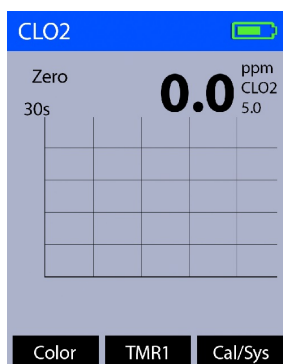

Figure 5.
2. Press **Zero** (). **Zero** will then appear on the top-left corner of the display (Figure 5).